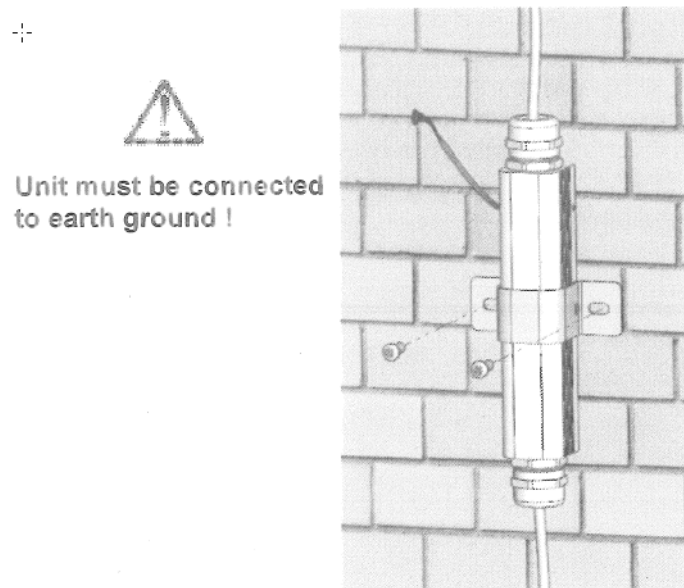

Figure 2-18 • Mounting Surge Protector on Outdoor Wall
17. If mounting to a vertical surface use the attached bracket on the surge protector and mounting screw to attach to the unit to the surface. See Figure 2-18 for an example of mounting the unit to a vertical surface with the bracket.
21. Mount the second surge protector at the point where the cable enters the building. See Figure 2-18 for an example.